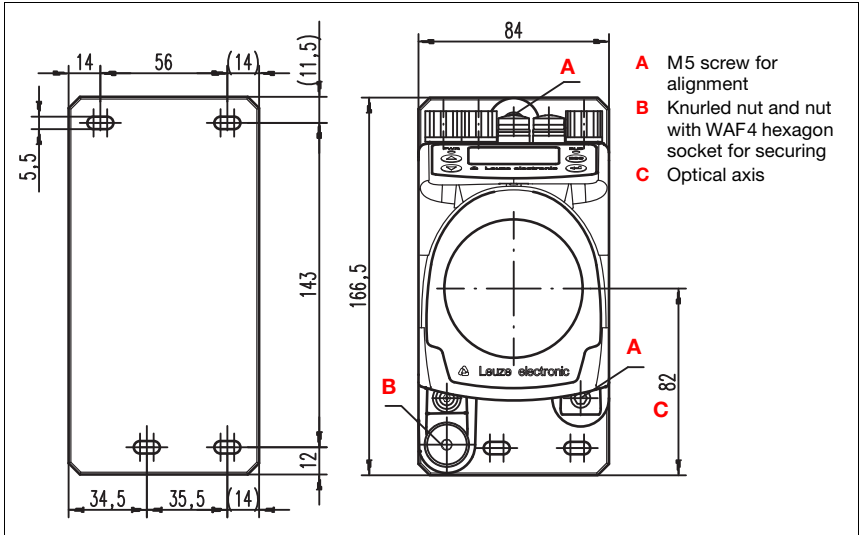

Figure 5.2: Mounting the device
The laser light spot has to be aligned so that it always hits the center of the opposing reflector, both at close range as well as at the maximum measurement distance. **To align, use the two M5 Allen screws ("A" in figure 5.2).** When aligning please ensure that the knurled nut and the lock nut ("B" in figure 5.2) are opened wide.
*To prevent the laser measurement system from moving out of alignment during continuous operation, subsequently hand-tighten the knurled nut and counterlock with the nut with WAF4 hexagon socket ("B" in figure 5.2). Knurled nut and nut must not be tightened until alignment has been completed.*